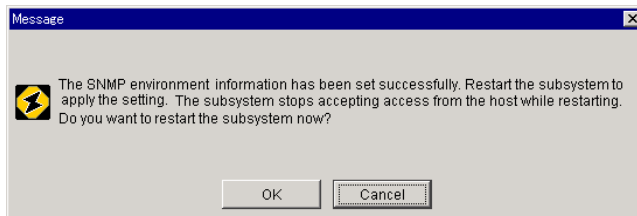

Figure 5.9 Settings/Environment Complete Dialog Box
8. A message appears, confirming that the settings are complete (Figure 5.9). This message also asks you to restart the subsystem. Click the **OK** button.